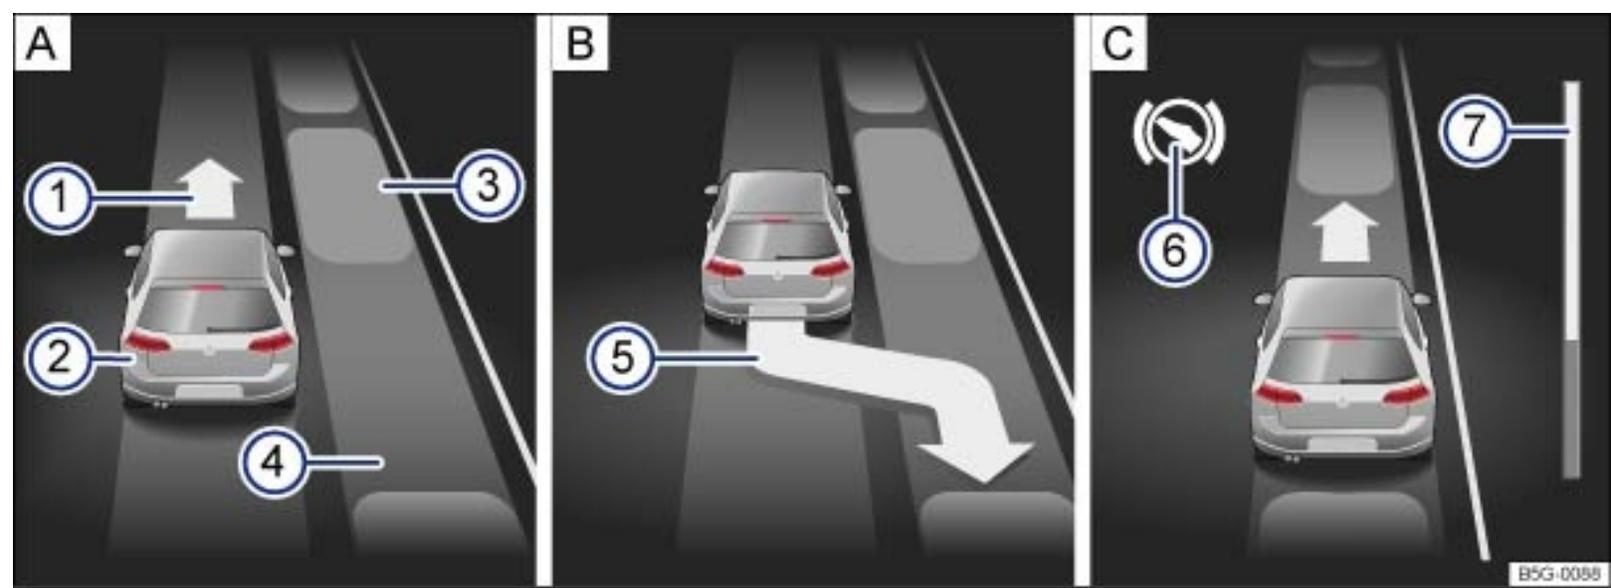
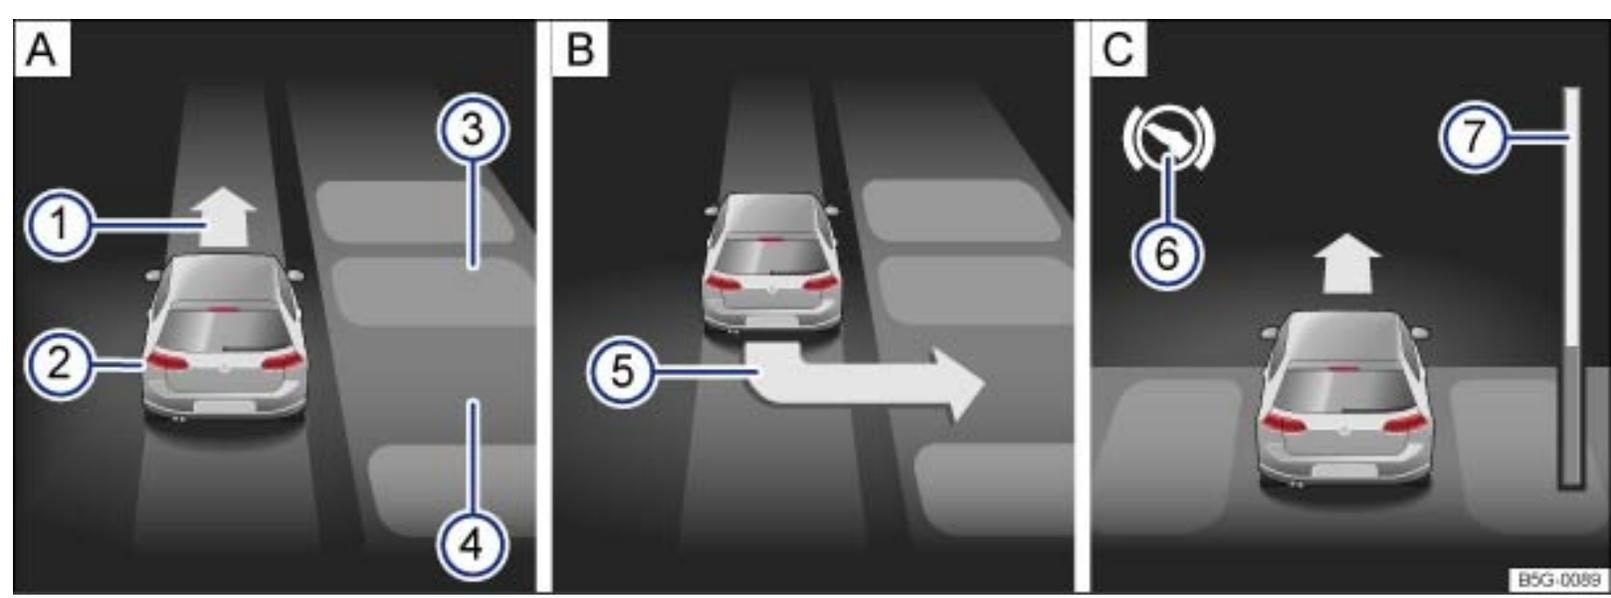

Fig. 173 In the instrument cluster display: Parallel parking. Searching for a parking space, positioning the vehicle for parking, maneuvering.
Fig. 174 In the instrument cluster display: Parking perpendicular to the road. Searching for a parking space, positioning the vehicle for parking, maneuvering.
Key to → Fig. 173 and → Fig. 174:
The progress bar → Fig. 173 ⑦ or → Fig. 174 ⑦ in the instrument cluster display shows the relative remaining distance using symbols. The higher the progress bar, the longer the remaining distance. When driving forward, the progress level moves up; when driving in reverse, it moves down.